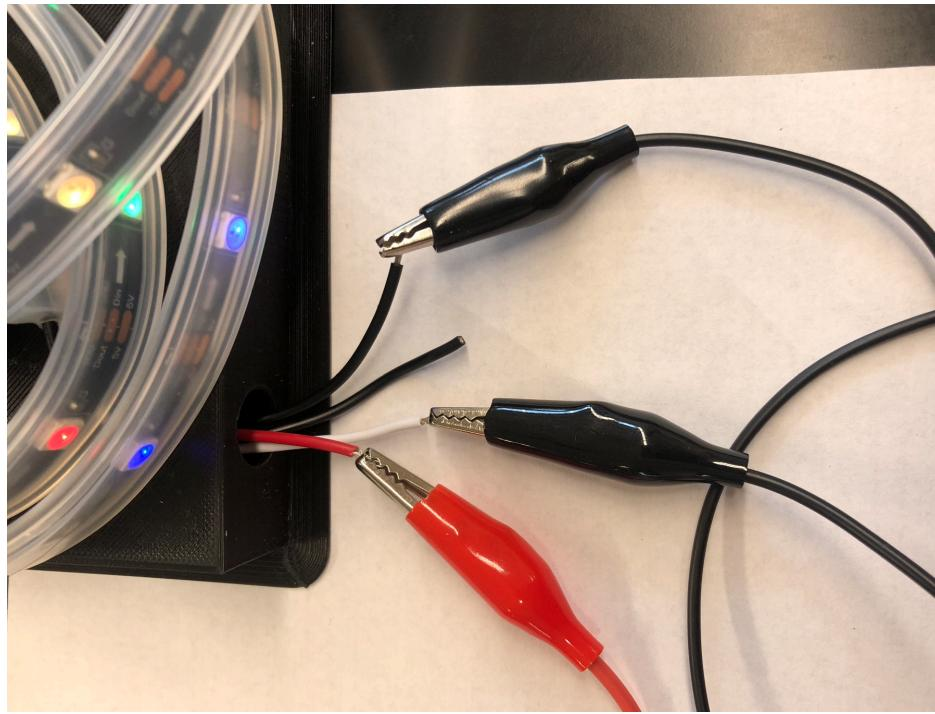

**Figure 1: Arduino power and ground connection diagram**
1. Connect your Arduino as shown in **Figure 1** below.